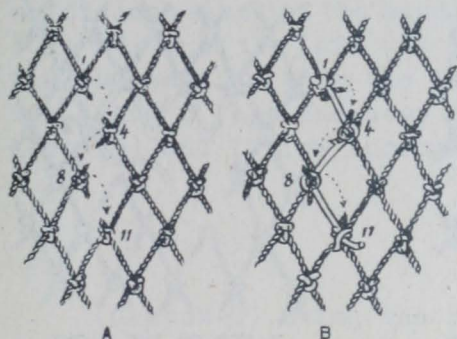

FIG. 20 - TEAR ON THE SIDERS
Figure 20-A illustrates a tear known as "tear on the sid-ers." Here, in addition to the starter three-legger (1) and the finishing three-legger (11), is "sider on the right" (4) and "sider on the left" (8). Figure 20-B shows the damage mended. Sider knots are very important as a signal to reverse the direction of shuttling on the mending procedure. Often when mending badly damaged nets where the netting has been under severe strain, the knots become deformed and hard to recognize. It is then good policy to cut the knot open to find out whether it is a mesh knot or sider. Sider signifies the end of the row.